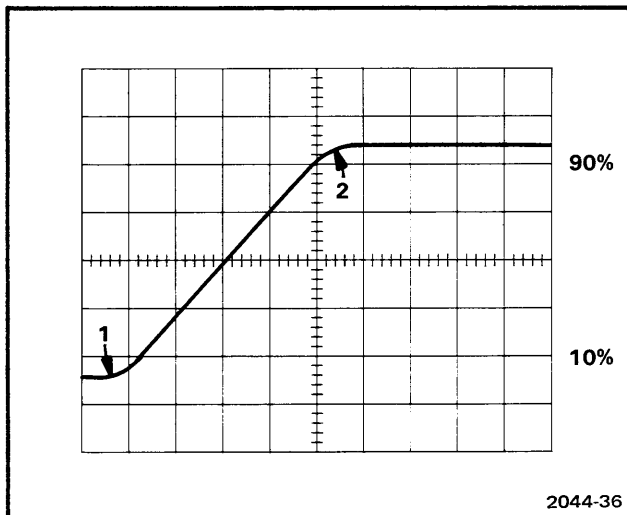

Fig. 4-4. Top Level Clamp Adjustment.
- d. Adjust Bot Lvl Clmp, (R570) so that the transition from the bottom level of the waveform to the leading edge transition, point 1, looks the same as point 2. See Fig. 4-4.